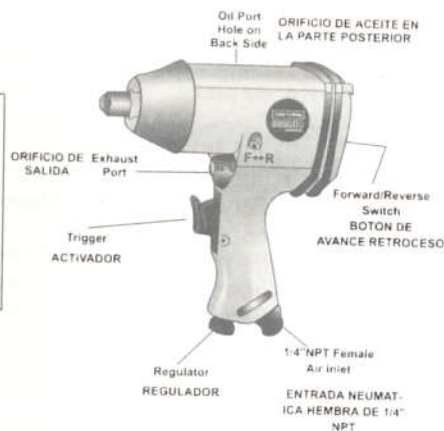

Figure 3
This tool's power output may be adjusted by rotating the regulator valve (fig. 2) until desired output is achieved. The settings on the regulator are only for reference and do not denote a specific power output. Turn clockwise to zero for less power and counterclockwise to four for maximum power. Push reverse pin towards the rear of tool for reverse and towards the front of the tool for forward (fig 3). Power is regulated in both forward and reverse direction.
In the event that it becomes necessary to store the tool for an extended period of time (overnight, weekend, etc.), it should receive a generous amount of lubrication through the air inlet (fig 3). The tool should be run for approximately 30 seconds to ensure oil has been evenly distributed throughout the tool. The tool should be stored in a clean and dry environment.
**Recommended lubricants:** Use air tool oil or any other high grade turbine oil containing moisture absorbent, rust inhibitors, metal wetting agents and an EP (extreme pressure) additive. (See Fig. 3 for location/air inlet).
**Impact clutch lubrication:** The tool reservoir in the anvil housing should be checked every 40 hours of operation. Remove the oil plug from the housing and hold tool so the oil port is lower than the anvil housing. Drain oil. Measure and refill with approximately 1 oz. (30 ml) of SAE 30 weight oil. Never overfill the anvil mechanism or excessive pressure will be created reducing tool speed and power. If the tool becomes sluggish after adding oil, remove a small amount of oil and check performance again. (Fig 3 Oil Port Hole)